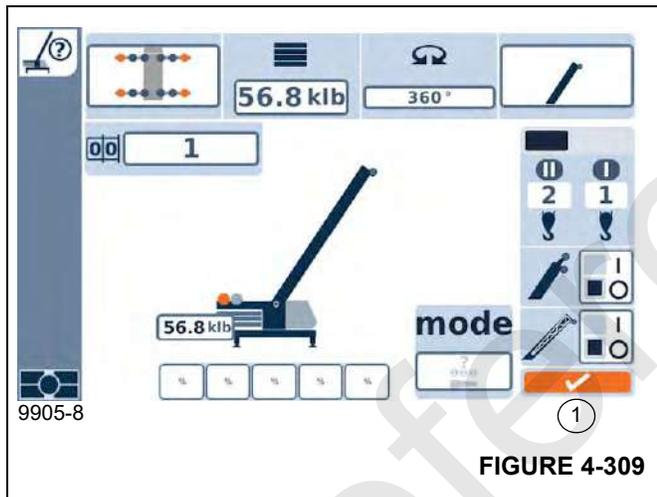

FIGURE 4-309
- Select the symbol (1), (Figure 4-309).